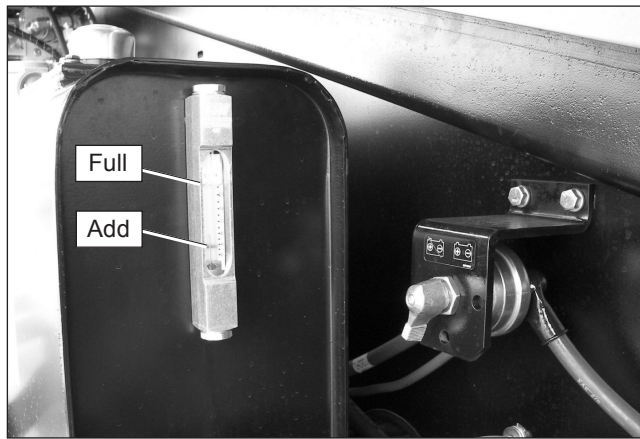

Figure 7.8 – Hydraulic Fluid Gauge
2. Open the door on the right side of the chassis to access the hydraulic fluid level gauge (refer to Figure 7.8).